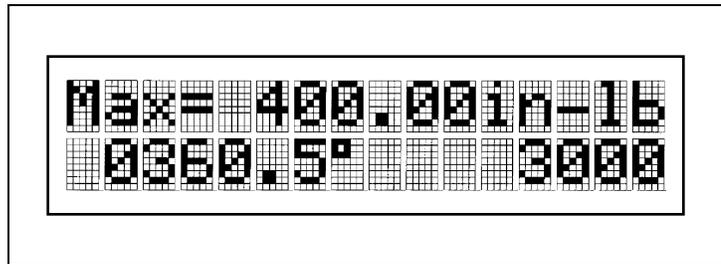

Figure 4-6: Angle Mode Display
- The LCD angle display is blank at the lower left, as shown in *Figure 4-6*.